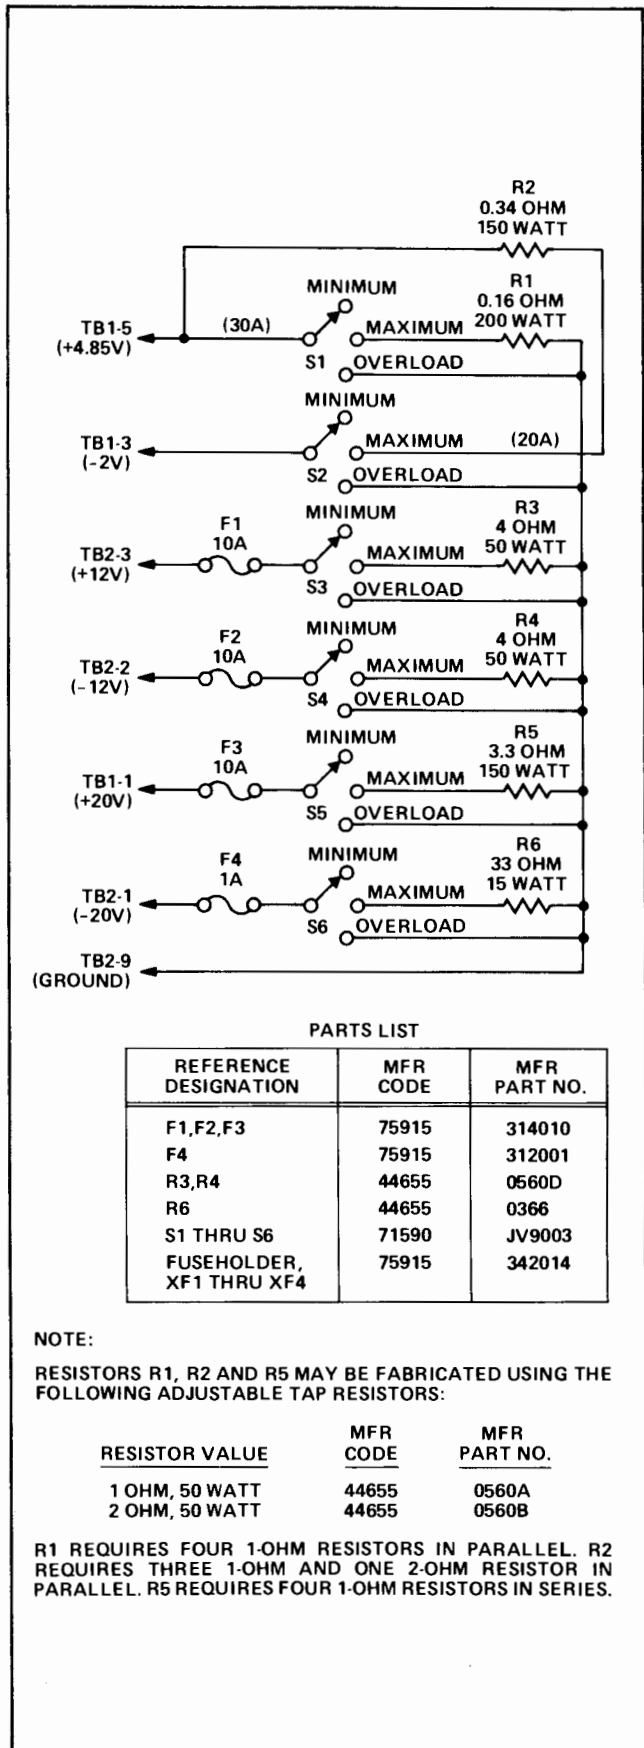

Figure 5-5. Power Supply Load Test Fixture
- c. Connect the power supply load test fixture as shown in figure 5-5, with all switches set to MINIMUM.